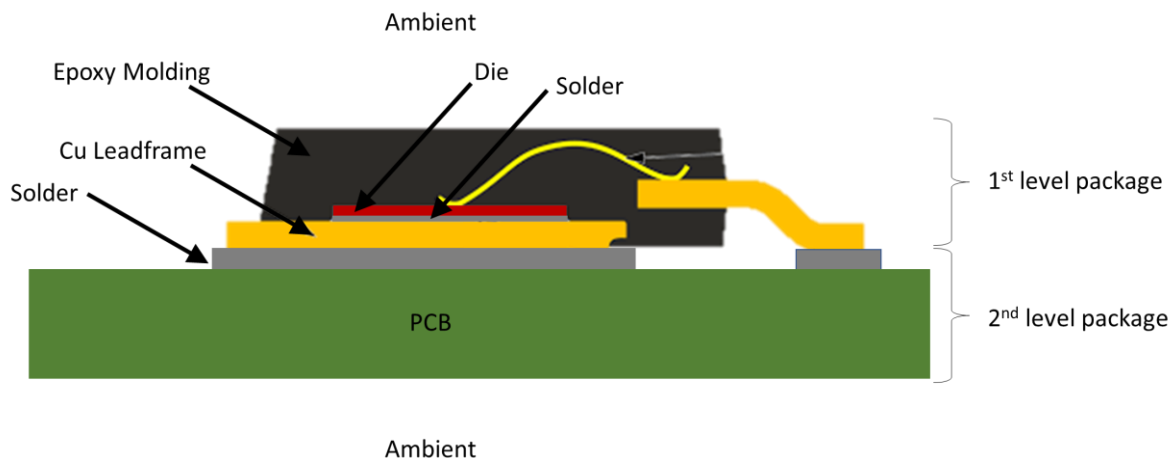

Figure 1: Package for problem 1.
1. For the package shown in Figure 1: